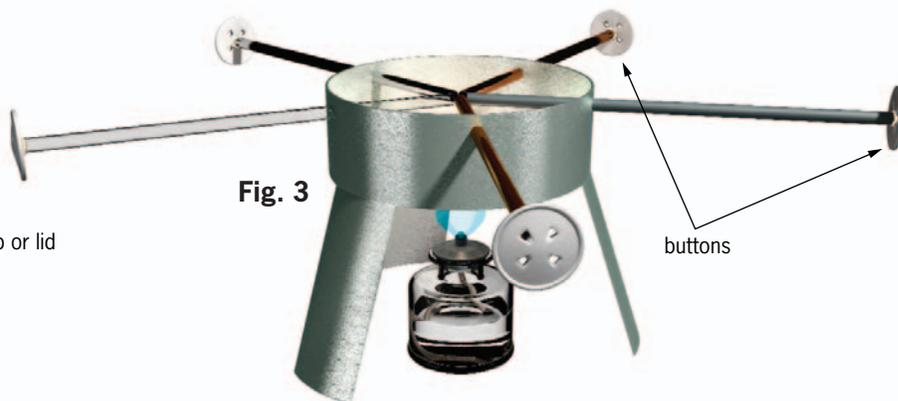

Fig. 3
2. Place the five rods into the steel-can tripod as shown in Fig. 3. Make sure the rods inside the tripod are touching so that all are an equal distance from the flame. Make a chart showing the color of the button and the material of the rod to which that button is attached.
3. While your partner holds the stopwatch or timer, ready to start it, light the alcohol lamp and gently slide it under the tripod. Carefully, but quickly, move the lamp so that the tip of the flame is in the center of the pentagon made by the five rods. (See Fig. 3) When the lamp is centered under the rods, say, "Go!" Your partner should start the watch or timer.